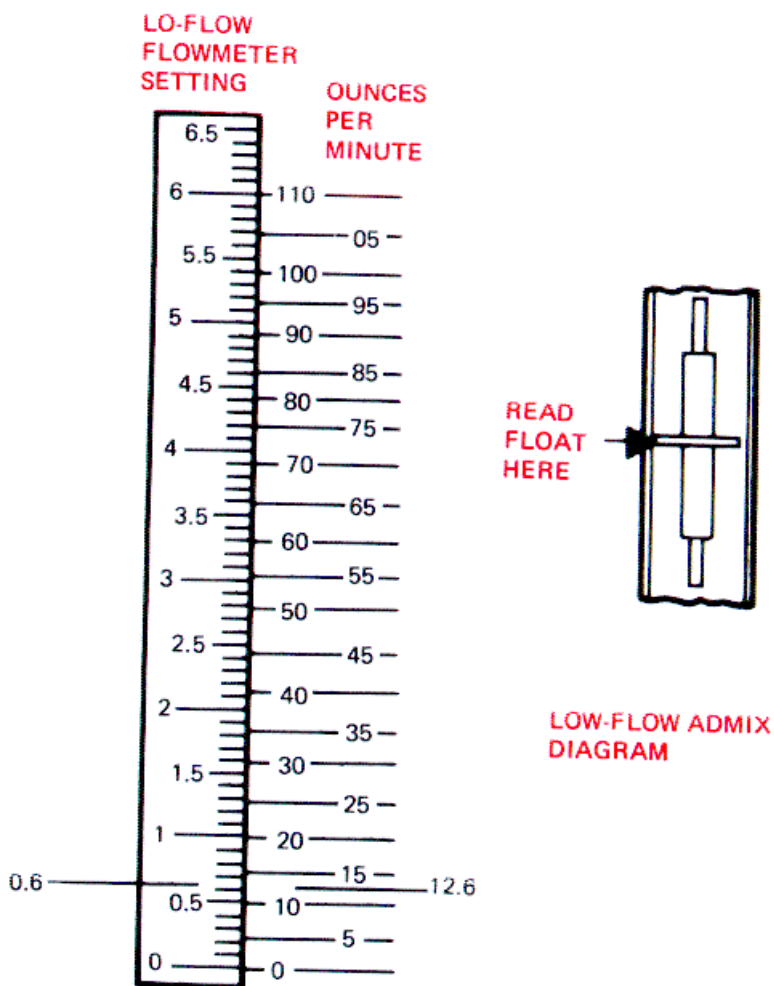

Figure 2-10. Low-Flow Admix Diagram.
Find (E) on the ounces scale of the Low-Flow Admix Diagram (fig. 2-10) Go left to find setting on the flowmeter scale